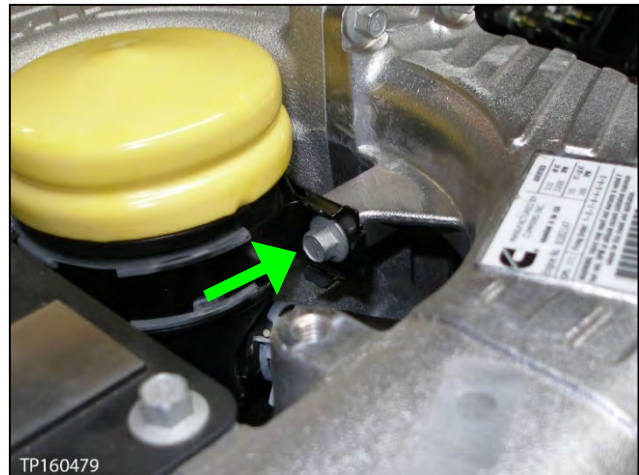

Figure 89
30. Install the air inlet connection bolt (see Figure 89).